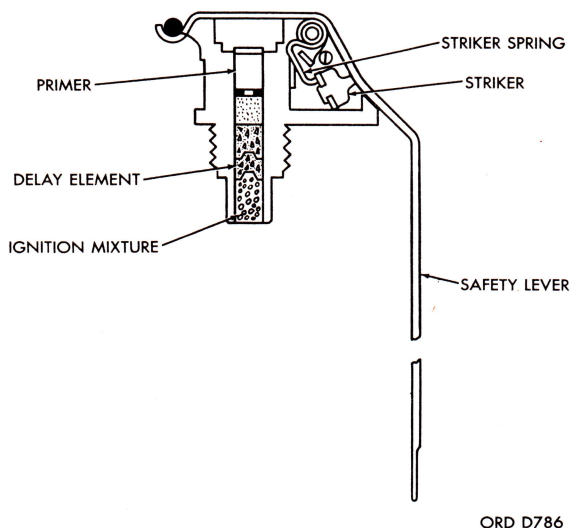
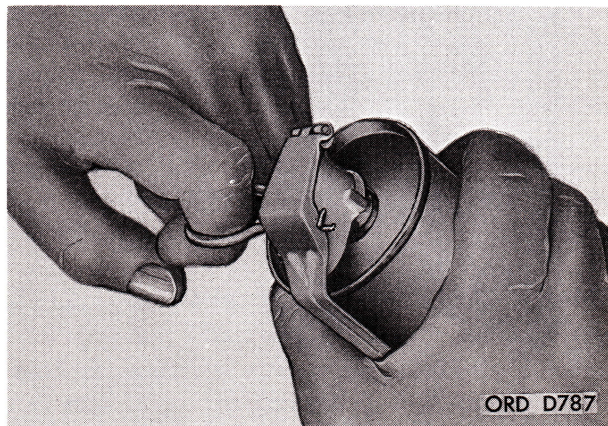

Figure 2-11. Fuze, hand grenade, M201A1.
Figure 2-12. Removing safety pin from grenade M6.
c. Functioning. As issued, the hand grenade fuze (fig. 2-11) is cocked and restrained from functioning by a safety pin. When the safety pin is withdrawn (fig. 2-12) and the grenade thrown, a sequence of function, as outlined in (1) through (6) below, is initiated:
- (1) The striker, driven by its spring, forces the safety lever out of its path, and the safety lever is thrown free of the grenade and releases the striker.
- (2) The striker strikes the percussion primer.
- (3) The primer emits a small intense spit of
- (1) *General.* Grenade M7 and M7A1 are cylindrical containers filled with CN (chloracetophenone) and fitted with igniting fuzes M201A1 (figs. 2-11 and 2-13). The body of the grenades is of thin sheet-metal 2.5 inches in diameter and 4.75 inches high. Grenade M7 has 18 emission holes in the sides and none in the bottom, whereas, the M7A1 has 4 emission holes in the top and one in the bottom. The emission holes are covered with pressure-sensitive tape to protect the filling from moisture. Fuze M201A1 is screwed into an adapter in the top of the grenade. The filling is a mixture of CN, sugar, potassium chlorate, potassium bicarbonate, and a finely divided inert substance (diatomaceous earth). The filling is compressed into
(1) *General.* Smoke grenade AN-M8 is a cylindrical metal container 2.5 inches in diameter and 4.5 inches high. The grenade AN-M8 is filled with 19 ounces of type C HC smoke mixture and is fitted with a grenade igniting fuze M201A1 (fig. 2-11). Four emission holes in the top of the grenade are covered with pressure-sensitive tape to protect the filler from moisture. A plastic cut set in the top of the filling contains starter mixture which is centered under the fuze. Fuze M201A1 is screwed into an adapter in the top of the grenade.